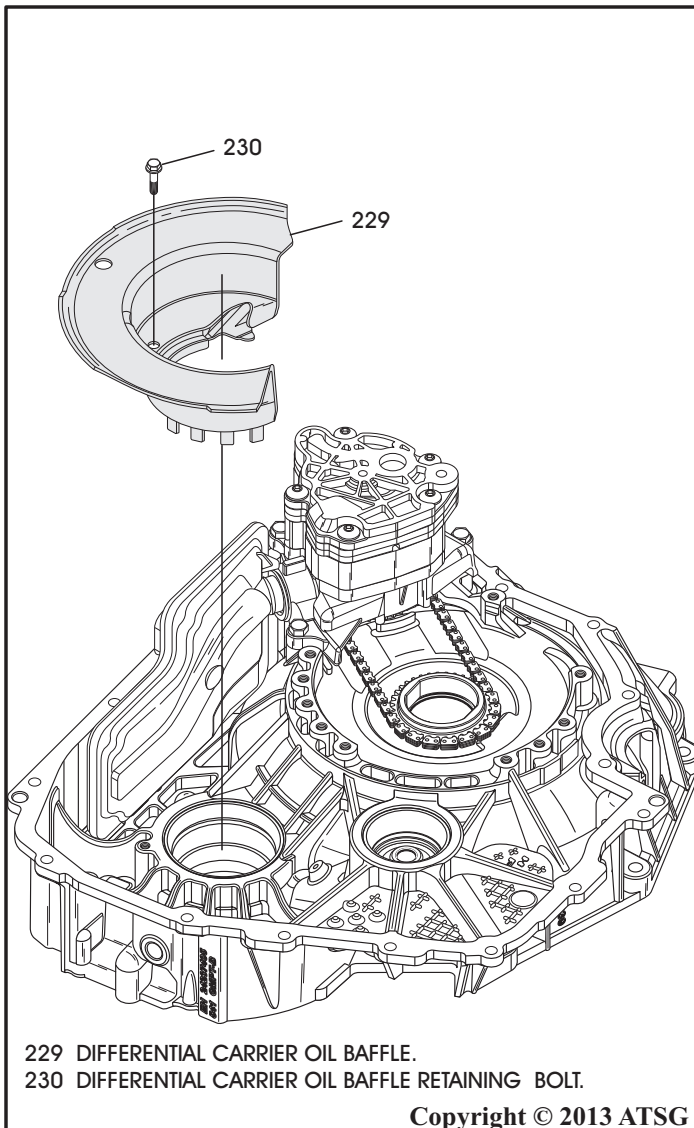

Figure 122
17. Install the differential carrier oil baffle and the retaining bolt, as shown in Figure 122.